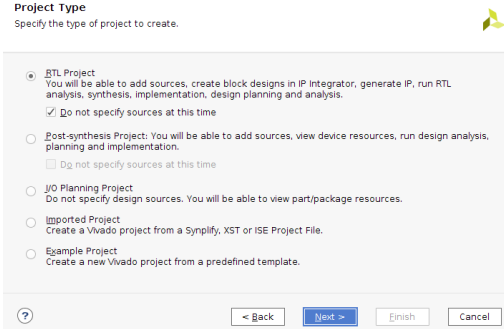

Figure 3 Choosing a project type
2. In the window shown in Figure 3, we specify the type of project we want to create. In our case it's an RTL project. RTL stand for “Register Transfer Level” and the hardware is described using VHDL files. Since this is the first project we tick the checkbox “Do not specify sources at this time”.